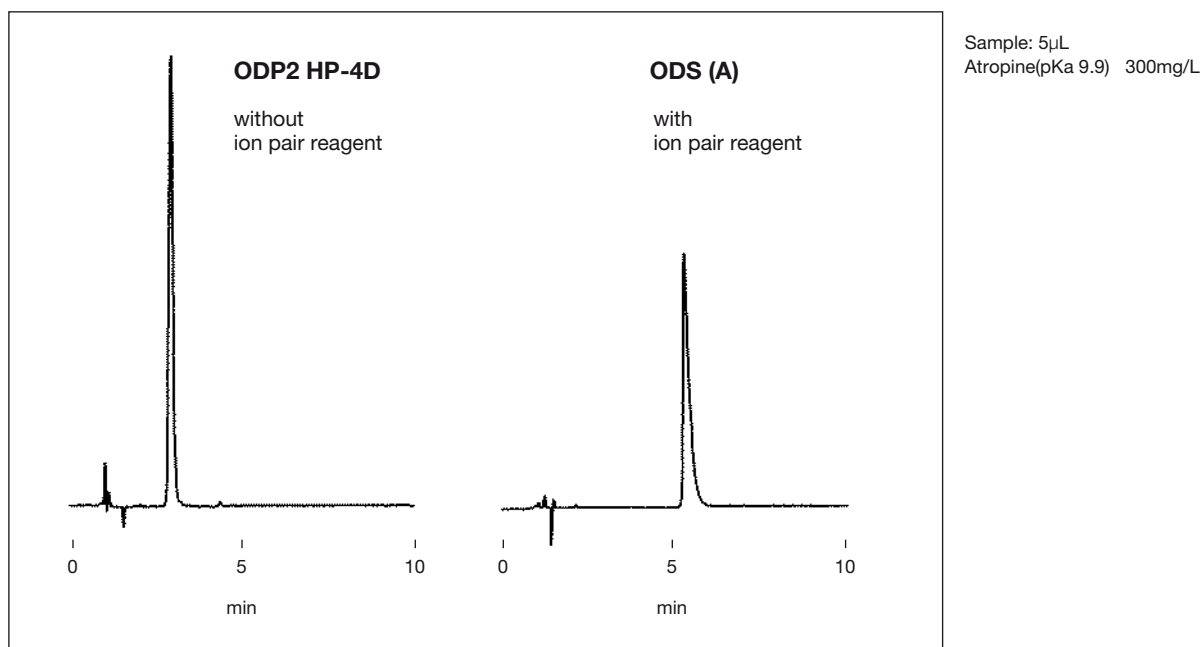

Fig. 2-3 Analysis of Basic Substances by ODP2 HP and ODS(A)
(1) Ionic sample and an ion pair reagent form ion pairs, which enhances hydrophobicity of the sample, and thus retention. Analysis of basic ionic substances can be described in the following:
(2) Hydrophobic segment of an ion pair reagent is adsorbed to the reversed phase column, which will then act as an ion exchange column.
In the case of reversed phase analysis of basic compounds, such as short amines, analysis under alkaline conditions, which prevent basic substances from dissociating, is appropriate. However, because silica-based columns usually exhibit very short lifetimes in alkaline conditions, ion pair reagents are used for the analysis of basic compounds. On the contrary, ODP2 HP, a polymer-based reversed phase column, is superior in alkali durability\*. In other words, it is possible to operate in alkaline eluent and simplify the reversed phase separation of basic compounds by using ODP2 HP. Eliminating a need for ion-pair reagents enhances both the separation process and the detection process for basic compounds. Figure 2-3 shows examples of basic drug analysis using the ODP2 HP and ODS column, ODS (A)\*\*.